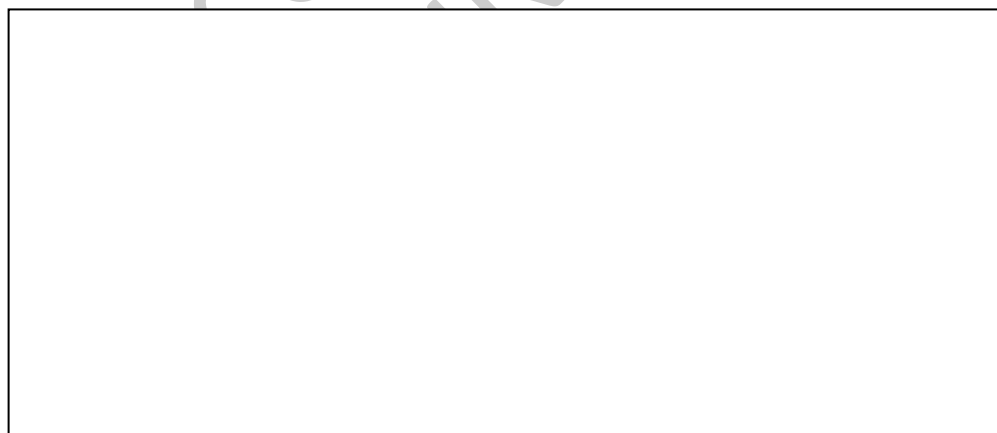

Figure 3. Typical chromatogram for sample and standard solutions.
4. Check the paper occasionally to observe the progress of the solvent moving up the paper. When the solvent has moved to within $\frac{1}{2}$ inch of the top of the paper, or when it does not appear to be moving any further, the experiment can be stopped. **DO NOT ALLOW THE SOLVENT TO REACH THE TOP OF THE PAPER!** At this point your standard spots should have migrated up the paper to varying extents but may not be very visible, and the mixture and unknown spots should have separated into two or more smears, similar to those shown in Figure 3. **Remove the paper from the beaker and trace the solvent front with a pencil before the solvent evaporates.**